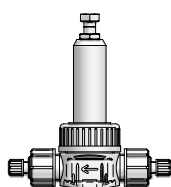

Fig. 7: Valve with arrow indicating the direction of flow
- Work in accordance with the flow direction of the back-pressure and pressure-relief valve (see Fig. 7).